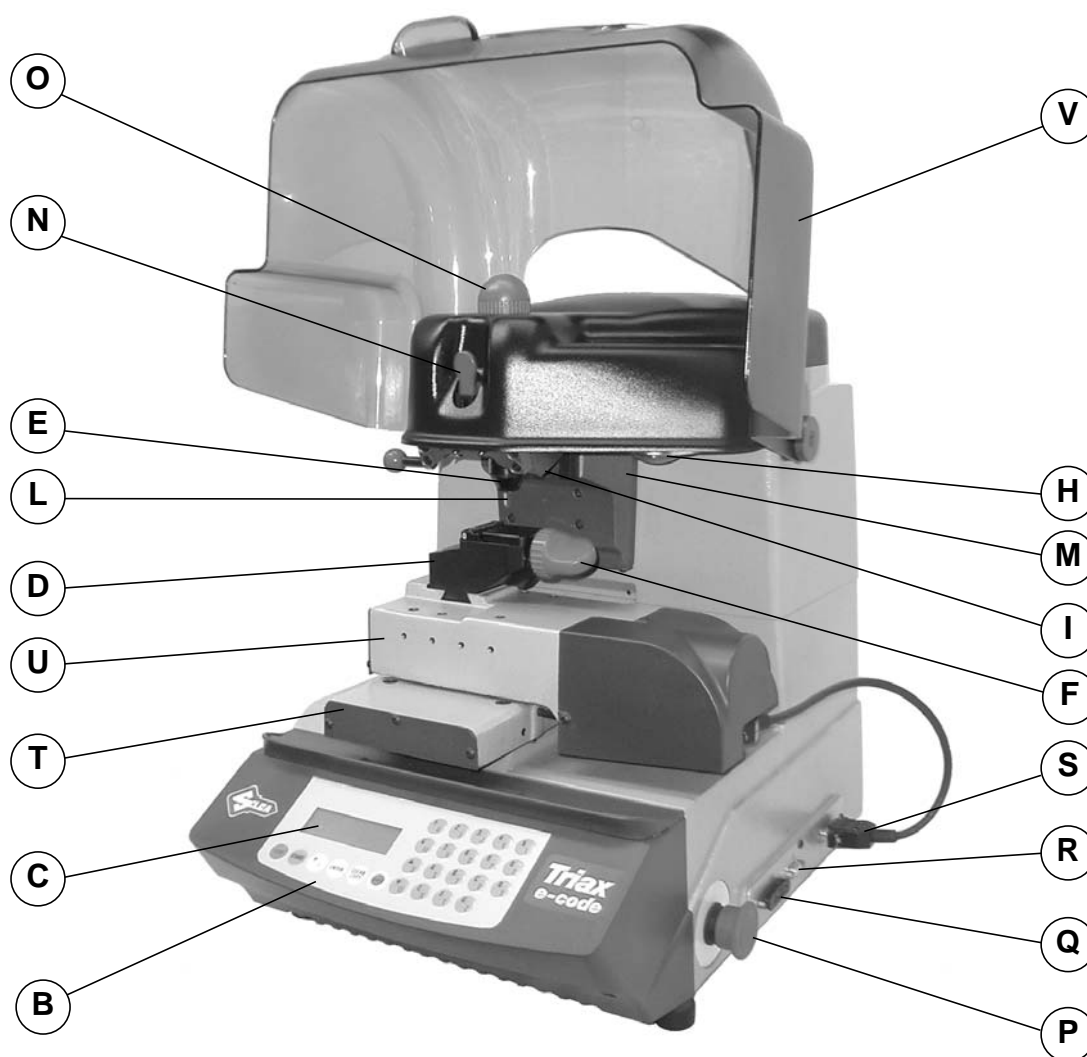

Fig. 4/A
The shield (V) (fig. 4, page 6) must be raised in order to fit keys for cutting or carry out other operations. Raising of the shield is controlled by a microswitch and disactivates the operating and movement functions, including the cutter. A special message appears on the display to warn that the shield is not closed. To re-start the work cycle, replace the shield in its original position and press the START button on the machine keypad.
The red emergency button (P) (fig. 4, page 6), placed on the right-hand side of the machine is used to stop it immediately in the event of faulty operation or danger for the operator.